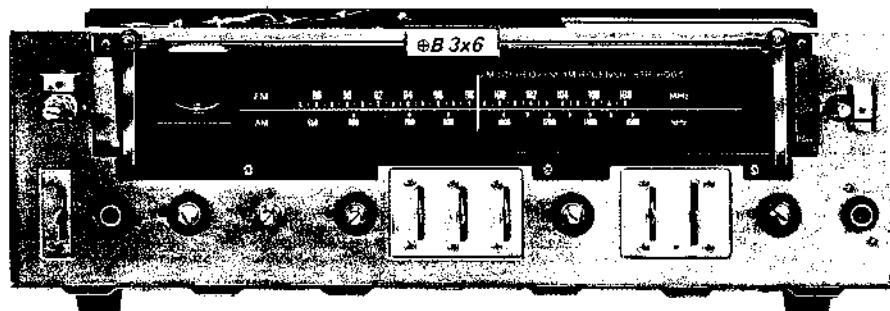

Fig. 2-12. Dial scale removal
3. Remove the two self-tapping screws (#B 3x6) securing the dial-scale holder to the front sub-chassis as shown in Fig. 2-12.